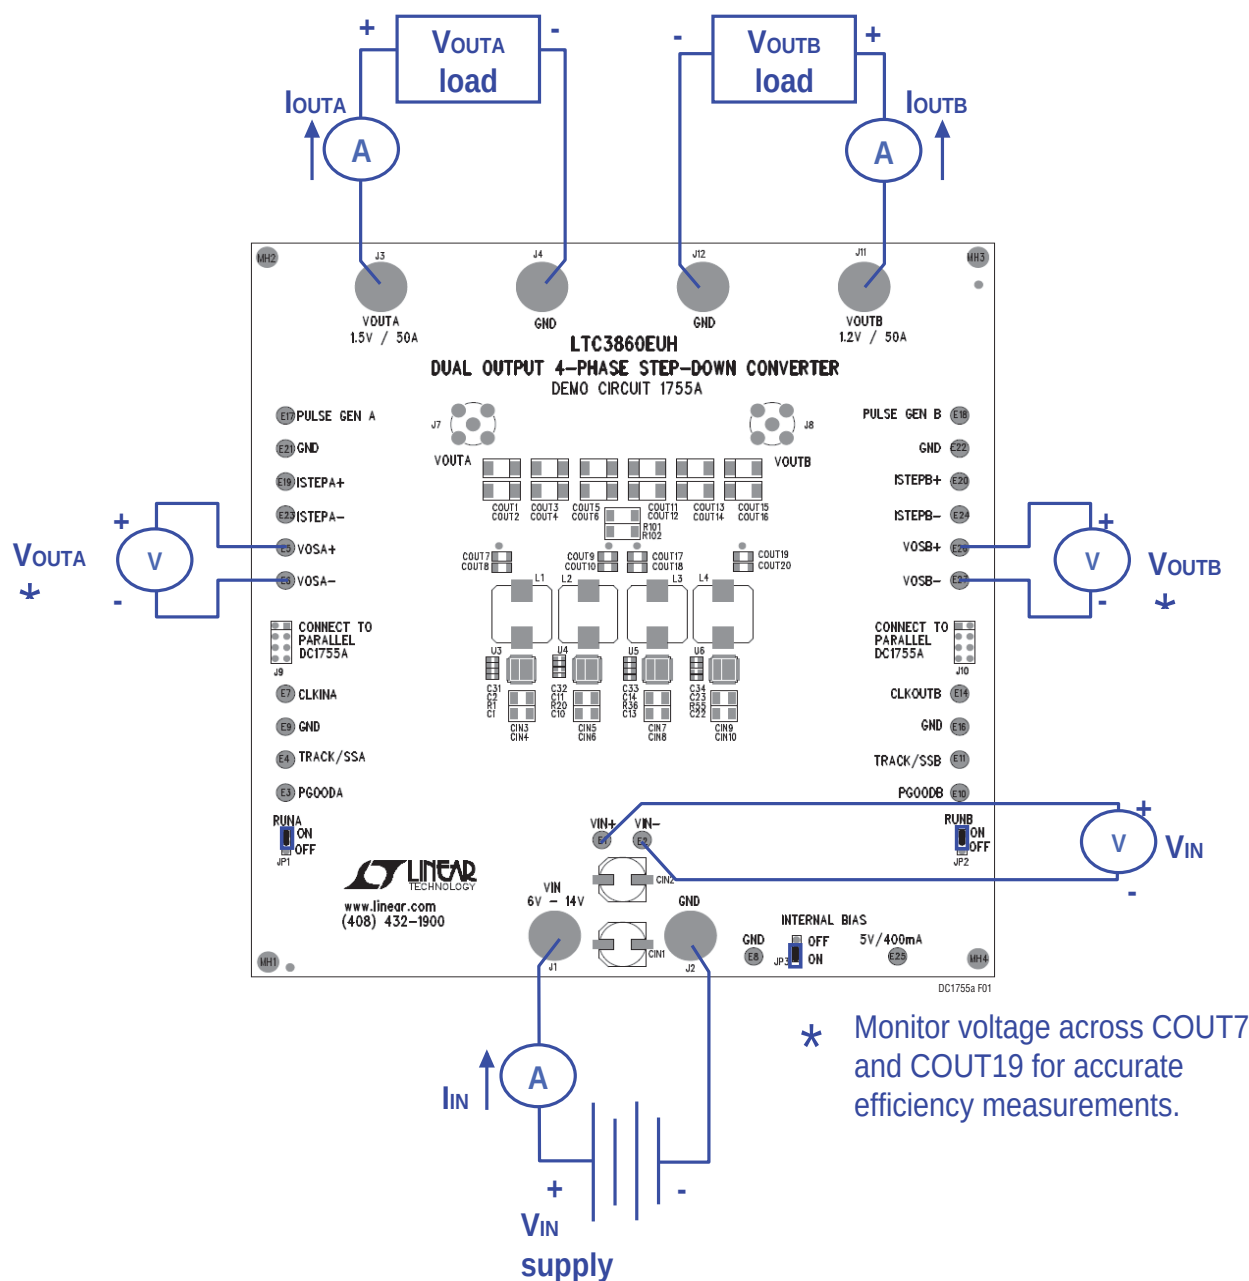

Figure 1. Proper Measurement Equipment Setup
Demonstration circuit 1755A is easy to set up to evaluate the performance of the LTC3860EUH. Please refer to Figure 1 for proper measurement equipment setup and follow the procedure below.
- 1) With power off, connect the input supply, load and meters as shown in Figure 1. Preset the load to 0A and V_{IN} supply to be 0V. Place jumpers in the following positions: